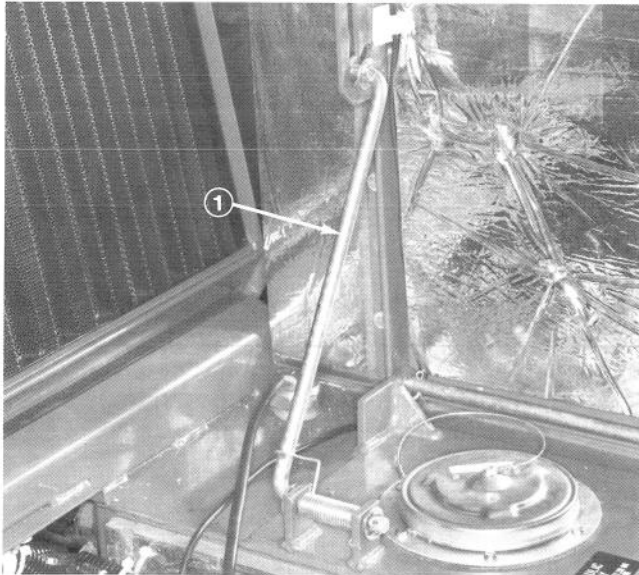

Figure 17
2. Use seat support rod to hold seat in upright position (Fig. 17).